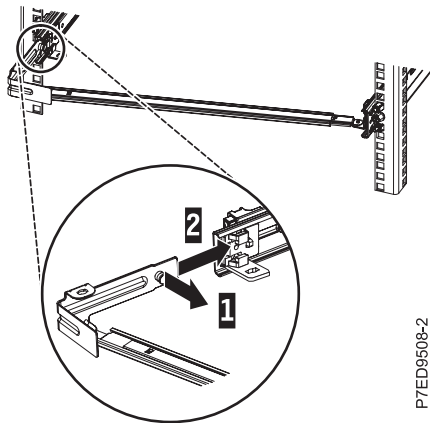

Figure 14. Extending slide rails and aligning server rail heads with the slots on the rail
3. To attach the other side of the support arm to the backside of the slide rail, pull the pin out (1), and then slide the bracket (B) into the left slide rail (2), as shown in Figure 14.